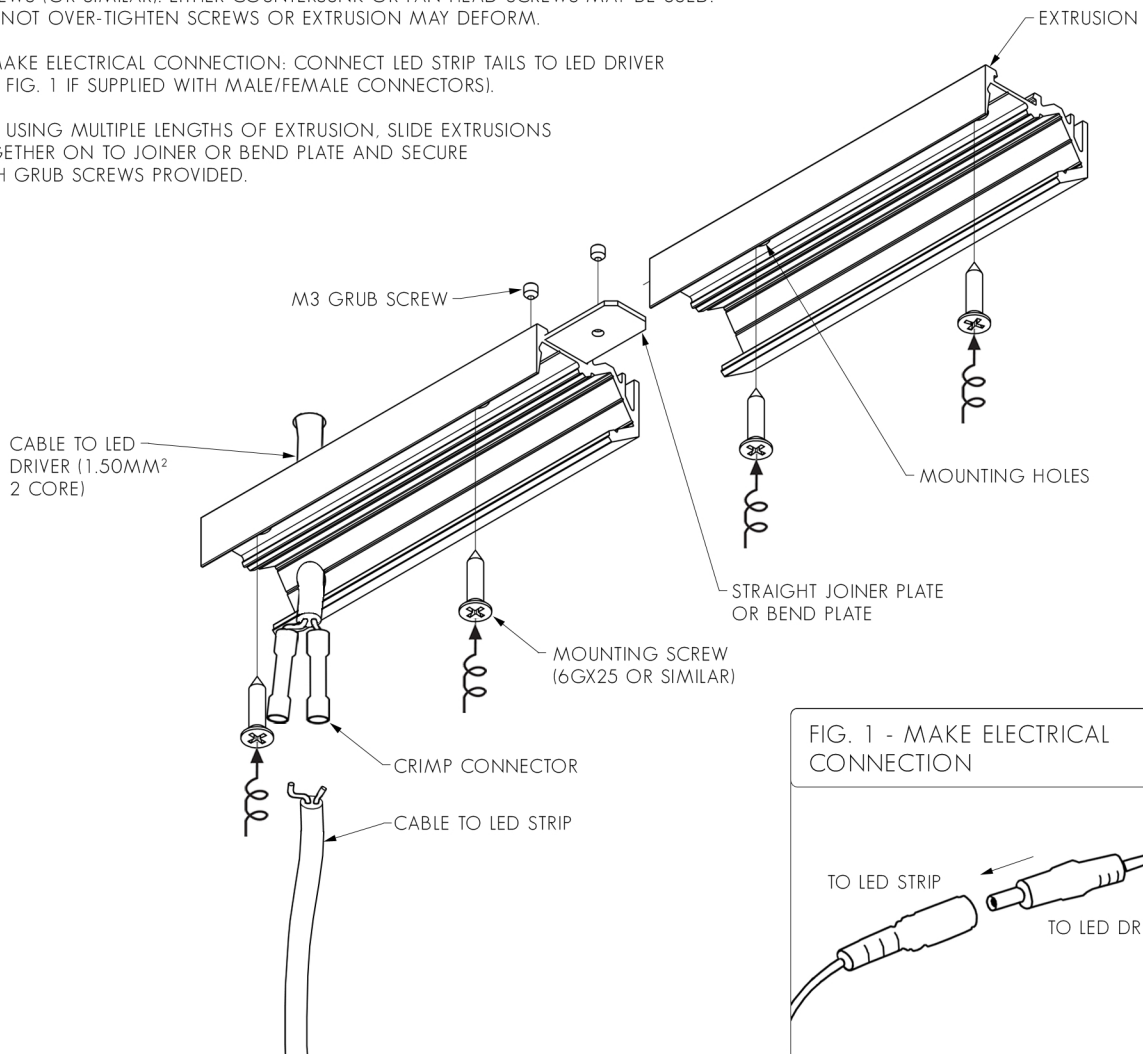

FIG. 1 - MAKE ELECTRICAL CONNECTION
4. MAKE ELECTRICAL CONNECTION: CONNECT LED STRIP TAILS TO LED DRIVER (SEE FIG. 1 IF SUPPLIED WITH MALE/FEMALE CONNECTORS).